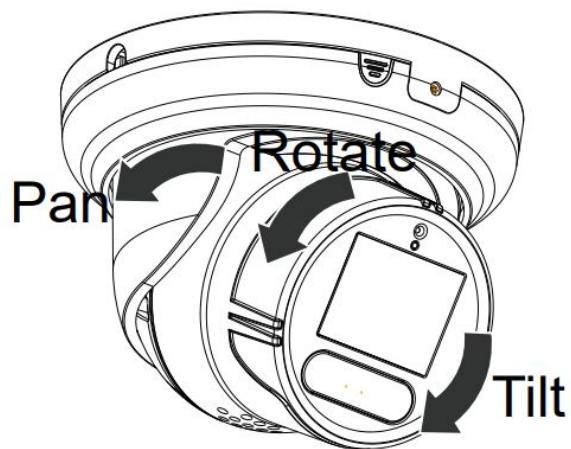

Figure 1-6
Step 5 Adjust camera viewing angle, then tighten set screw to lock position. See Figure 1-6.